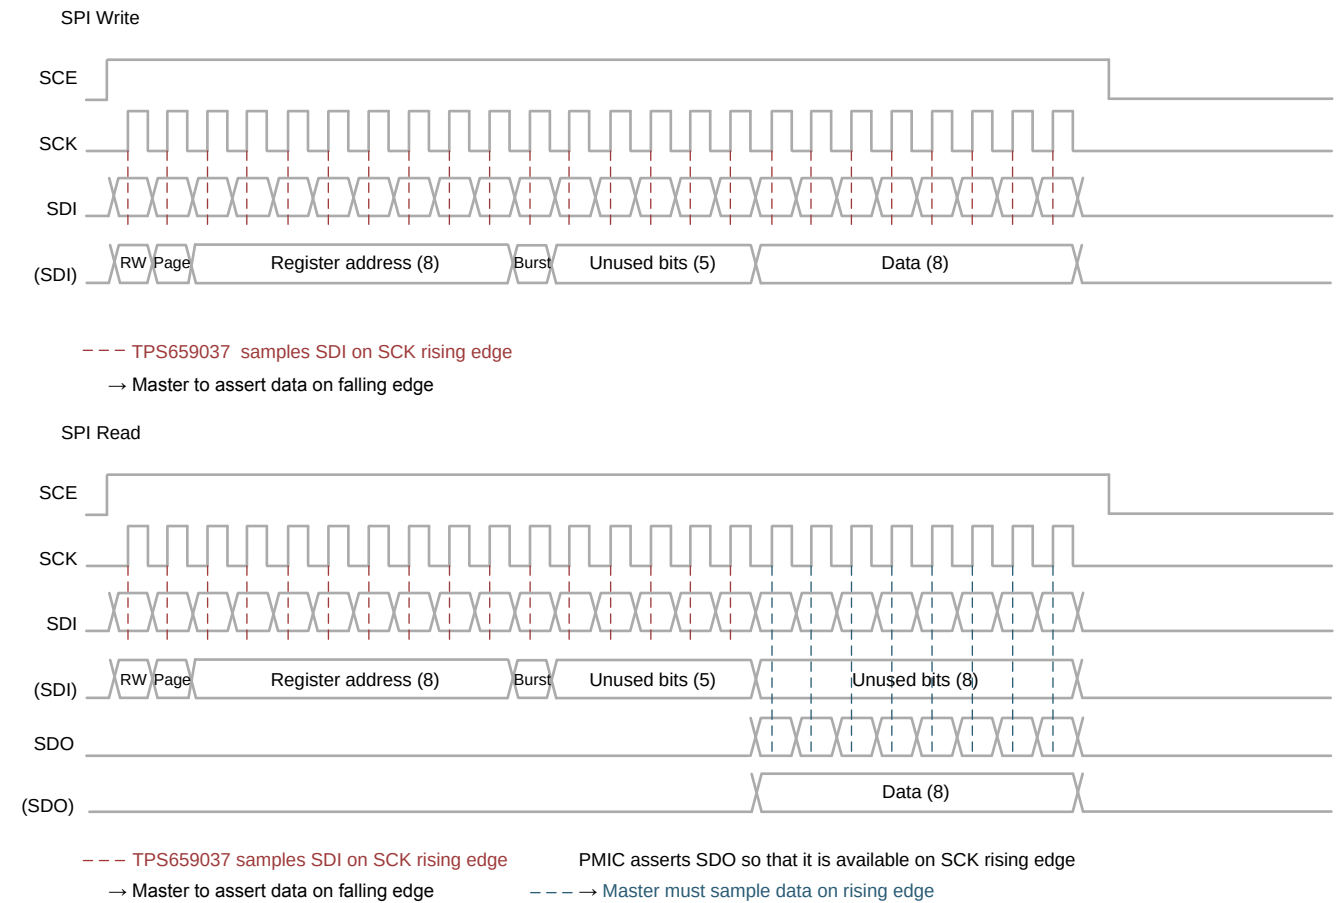

FIG 5-15. SPI Single Read and Write Access
- This consists of fetching and storing one single data location. The protocol is depicted in Figure 5-15.